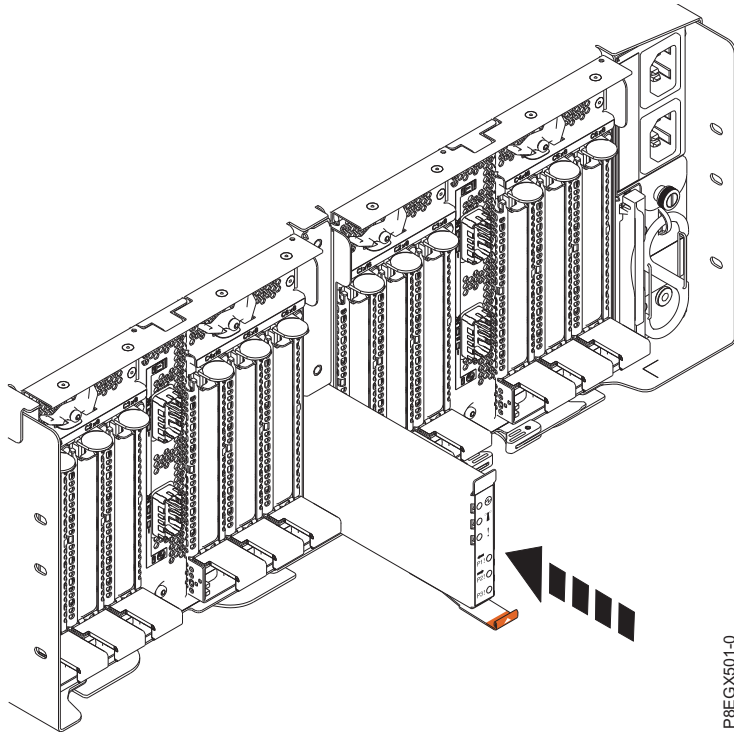

Figure 4. Replacing the light pipe conduit in the EMX0 PCIe3 expansion drawer
3. Ensure that the tab located at the bottom of the light pipe conduit locks in place as shown in Figure 4 on page 5.